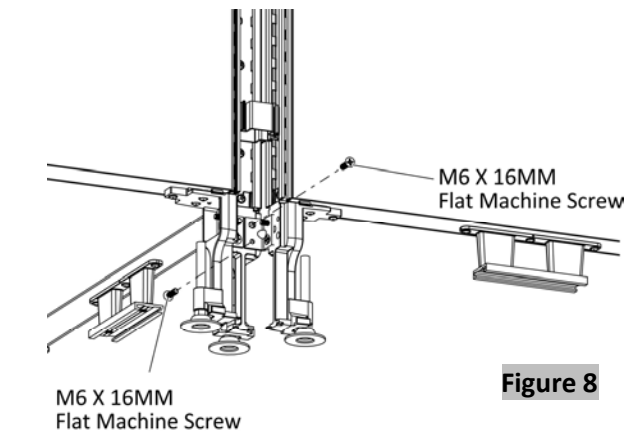

Figure 8
- 15. Secure the base with two M6 X 16MM Flat Machine Screws, (Figure 8).